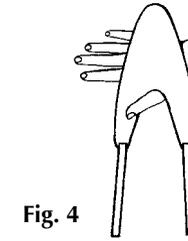
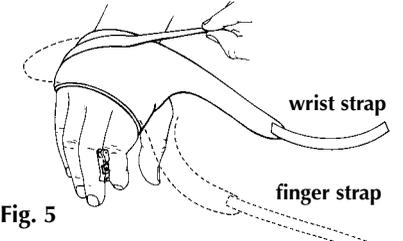

Fig. 4
Fig. 5
1. Position the unwrapped Cuff on the hand as shown (Fig. 4) with the smoother side against the skin. Wrap the finger strap across the palm and attach **near the wrist**. Position the Cuff's forward edge **parallel** to the base of the fingers (Fig. 5).